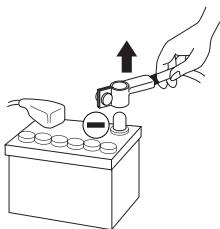

fig. 1
- **Before commencing installation, disconnect the negative battery terminal to avoid risk of injury, fire or material damage. (Fig. 1)**
- 2 - Disconnect the cable from the negative terminal on the vehicle battery before beginning installation (*Fig. 1*).